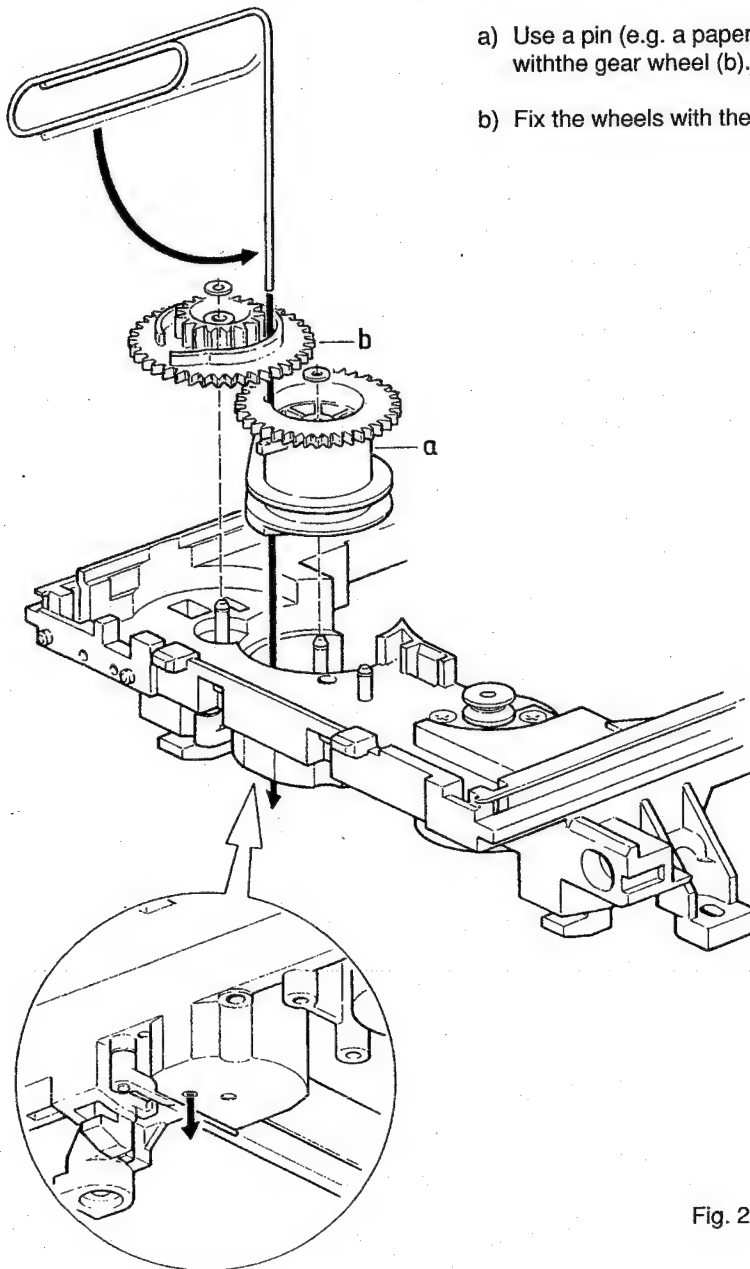

Fig. 2
- a) Use a pin (e.g. a paperclip) to align the cam wheel (a) with the gear wheel (b). See Fig. 2.